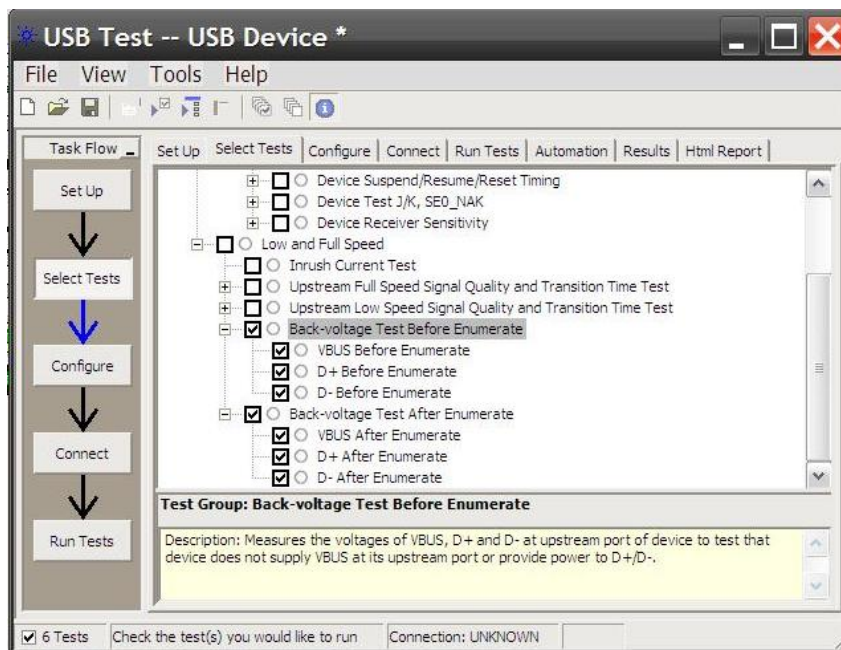

Figure 10. Automated Test software setting for the Back-Voltage Test
1. Select the test items in the USB Automated Test software on the oscilloscope as shown in Figure 10.